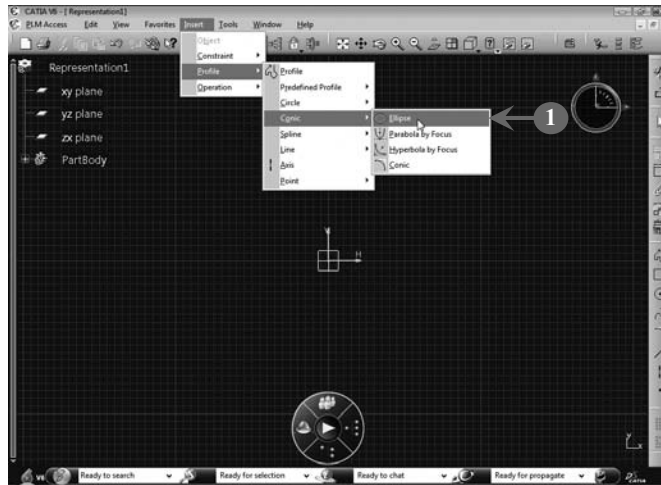

FIGURE 2.40
1. Select **Insert > Profile > Conic > Ellipse**, as shown in **Figure 2.40**: